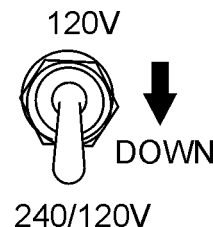

Figure 21. Full Power Switch 240/120 V Position (Down)
- Place the full power switch (Figure 21) in the 240V position (down).